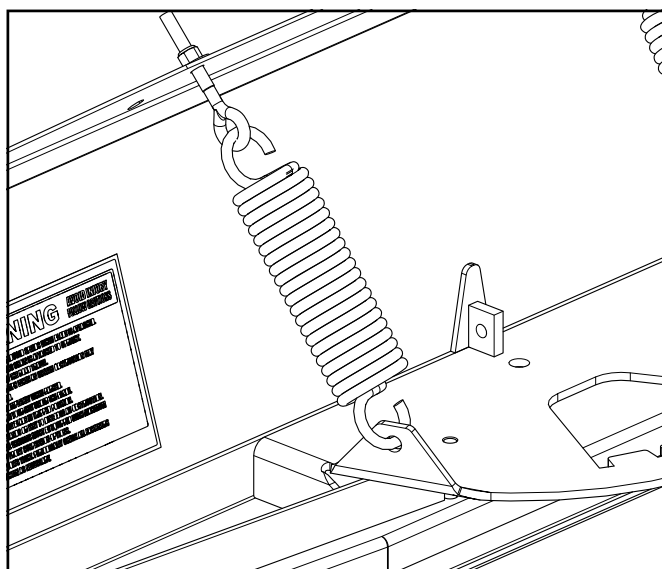

Fig. 2.2 (Trip Spring Installation)
2.2 Hook one end of the trip spring through the lower trip spring mount. See Fig 2.2. Hook the eyebolt on the other end of the spring and insert the threaded section up through the hole in the upper spring mount. Install a 3/8" washer, then a 3/8" Nylock hex nut on the eyebolt. Repeat above for the second trip spring.